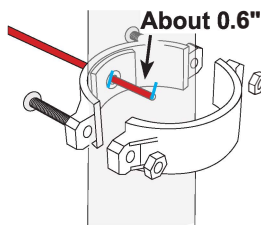

Figure 7
2. Slip the front plate to one end of the tubing (without mark), and insert the tubing into the drilled hole up to about 0.6" (Figure 7);